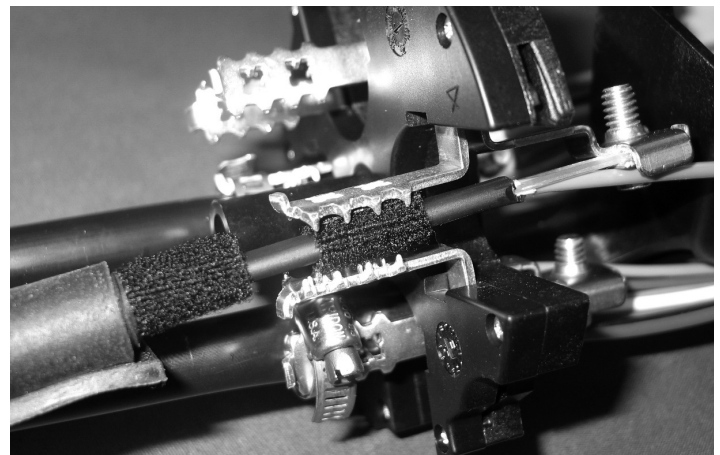

Figure 15
16. Position the small cable assembly into the designated port. (Fig. 15)